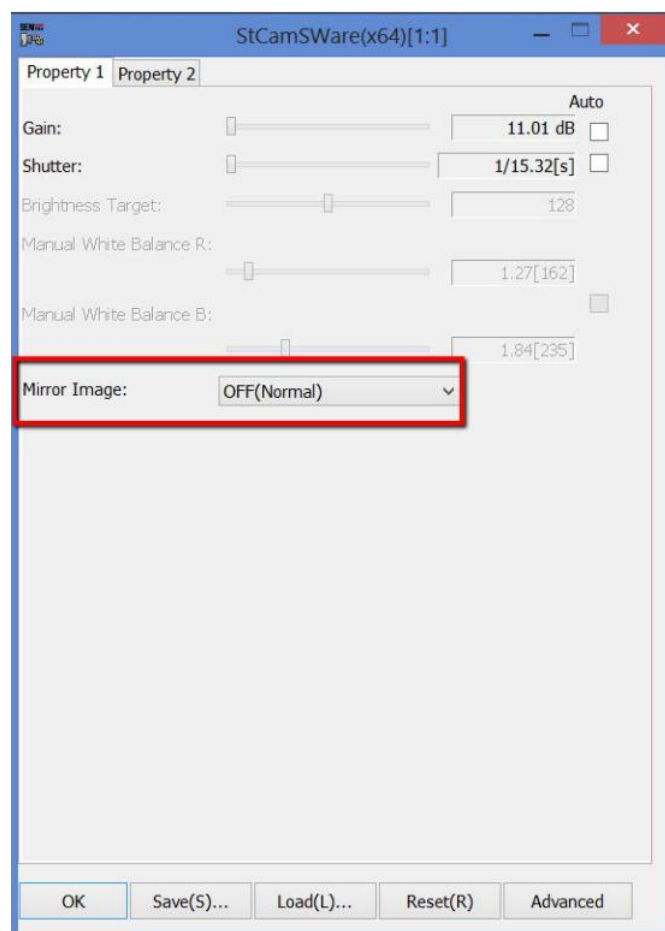

Figure 35 StCamsWare GUI
33. Select “OFF (Normal)” at Mirror Image Column as below Figure 35.